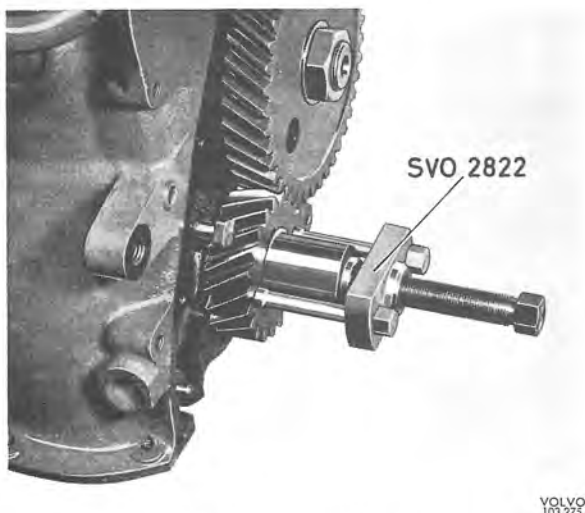

Fig. 2-41. Removing crankshaft gear
5. Pull off the crankshaft gear with puller SVO 2822, see Fig. 2-41.